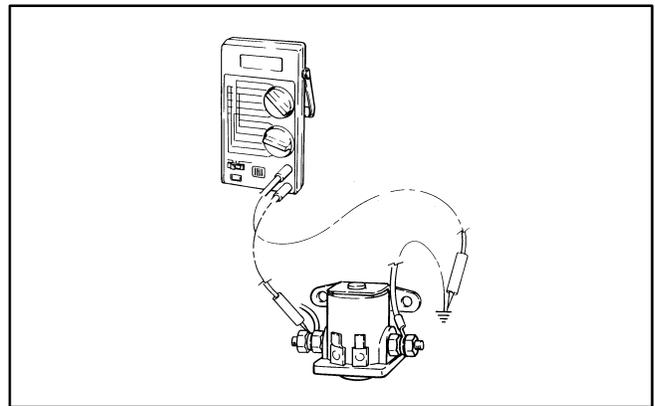

FIGURE 8-17. STARTER VOLTAGE CHECK
1. Connect a voltmeter between the output terminal on the start relay (opposite the BAT terminal with the starter motor lead connected) and ground. See Figure 8-17.